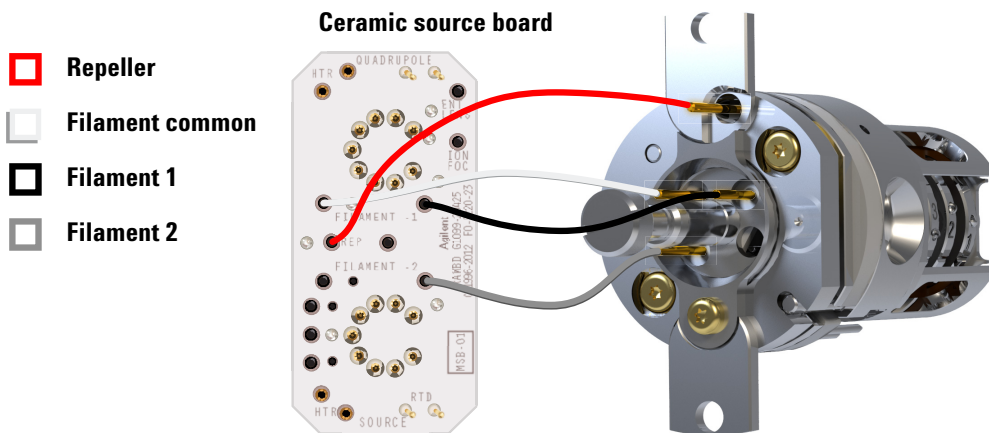

Figure 48 Wiring between the ceramic source board and the EI HES
- 1 Use tweezers or needle nose pliers to connect/disconnect the ceramic board wire leads (red, white, black, and gray) at the source connectors. (See Figure 48.)